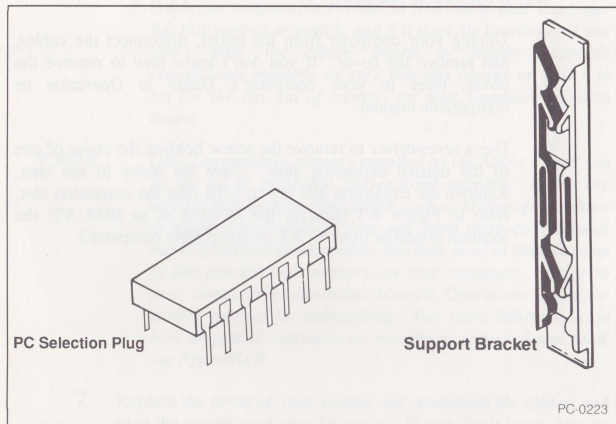

Figure 6-8 The PC selection plug and the support bracket
- Find the plastic packet containing the PC selection plug and the support bracket supplied with your Above Board. Figure 6-8 shows the plug and the bracket.
- 4 Find the plastic packet containing the PC selection plug and the support bracket supplied with your Above Board. Figure 6-8 in the previous section shows the plug and the bracket.